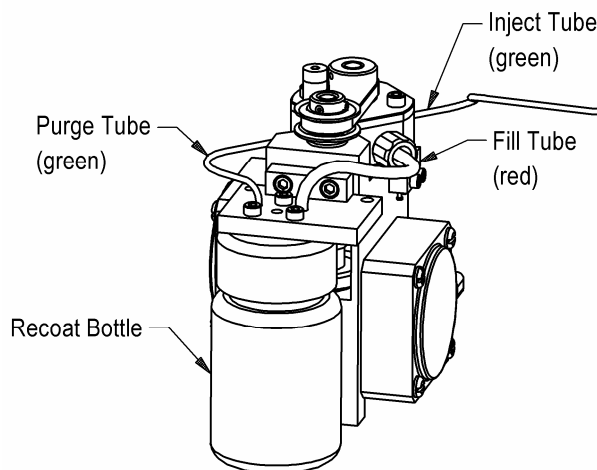

Figure 22: Recoat material flow
8. Execute five (5) Purge cycles (Options menu on Handset Controller or Tools menu on Integrated Module Controller). Each purge cycle will draw 100 microliters of recoat material from the bottom of the recoat bottle through the red Fill tube and inject material back into the top of the recoat bottle through the green Purge tube (see Figure 22). Five (5) Purge cycles are required to fill the pump with recoat material and force any air out of the pump system. This will take approximately 15 minutes to complete.